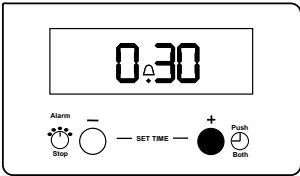

Fig.6
Release button (1) and press and hold button (2). The display will count up in one minute intervals until the interval to be timed is reached e.g. 30 minutes, see Fig. 6. If necessary press and hold button (1) to achieve the correct time interval. The bell symbol will show in the display.